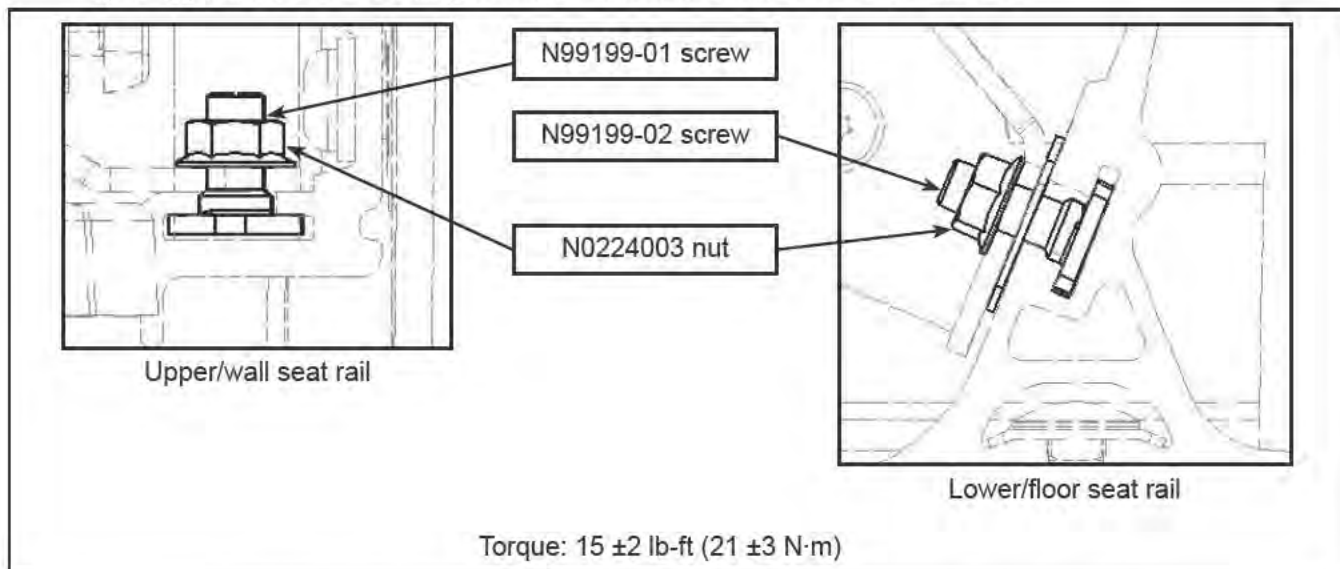

Figure 15 - Seats Fasteners and Torque on Upper/Wall and Lower/Floor Seat Rail
- Torque the nuts to the torque value shown in Figure 15.